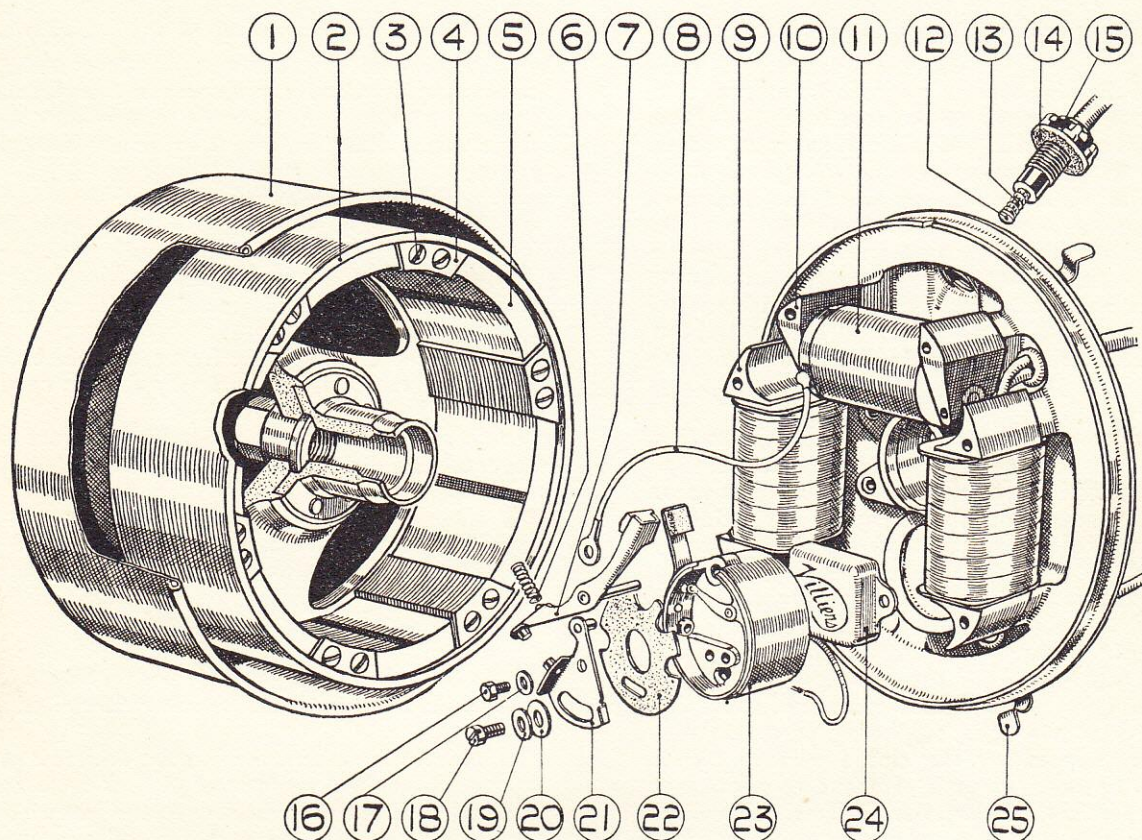

FIG. 32.
It should be noted that the rocker arm itself is earthed, but that every care must be taken to see that the adjustable point plate is properly protected from the contact breaker box itself by the large insulating washer (22) under the plate; the small insulating washer (20) under the clamp screw brass washer; the small black insulating bush on which the point plate pivots. See Fig. 32.
The only parts liable to wear are the rocker arm spindle and the rocker arm pad which bears on the flywheel cam. The rocker arm is built as a complete assembly (No. 7, Fig. 32) with spindle, pad and fixed contact point, and can be withdrawn from condenser box after pushing on one side the spring clip; take care that the rocker arm spring (No. 6, Fig. 32) does not fly out.
A condenser is fitted to the underside of the contact breaker or condenser box (No. 24, Fig. 32), and is held in position by the studs securing condenser box to armature plate. To replace the condenser the complete box must be removed from armature plate, but before this can be done the four armature plate fixing screws must be taken out to allow plate to come away from crankcase.
When replacing coil see that the contact disc on outside is in the correct position to make contact with the pick-up pad when the high tension lead terminal (No. 15, Fig. 32) is screwed in.